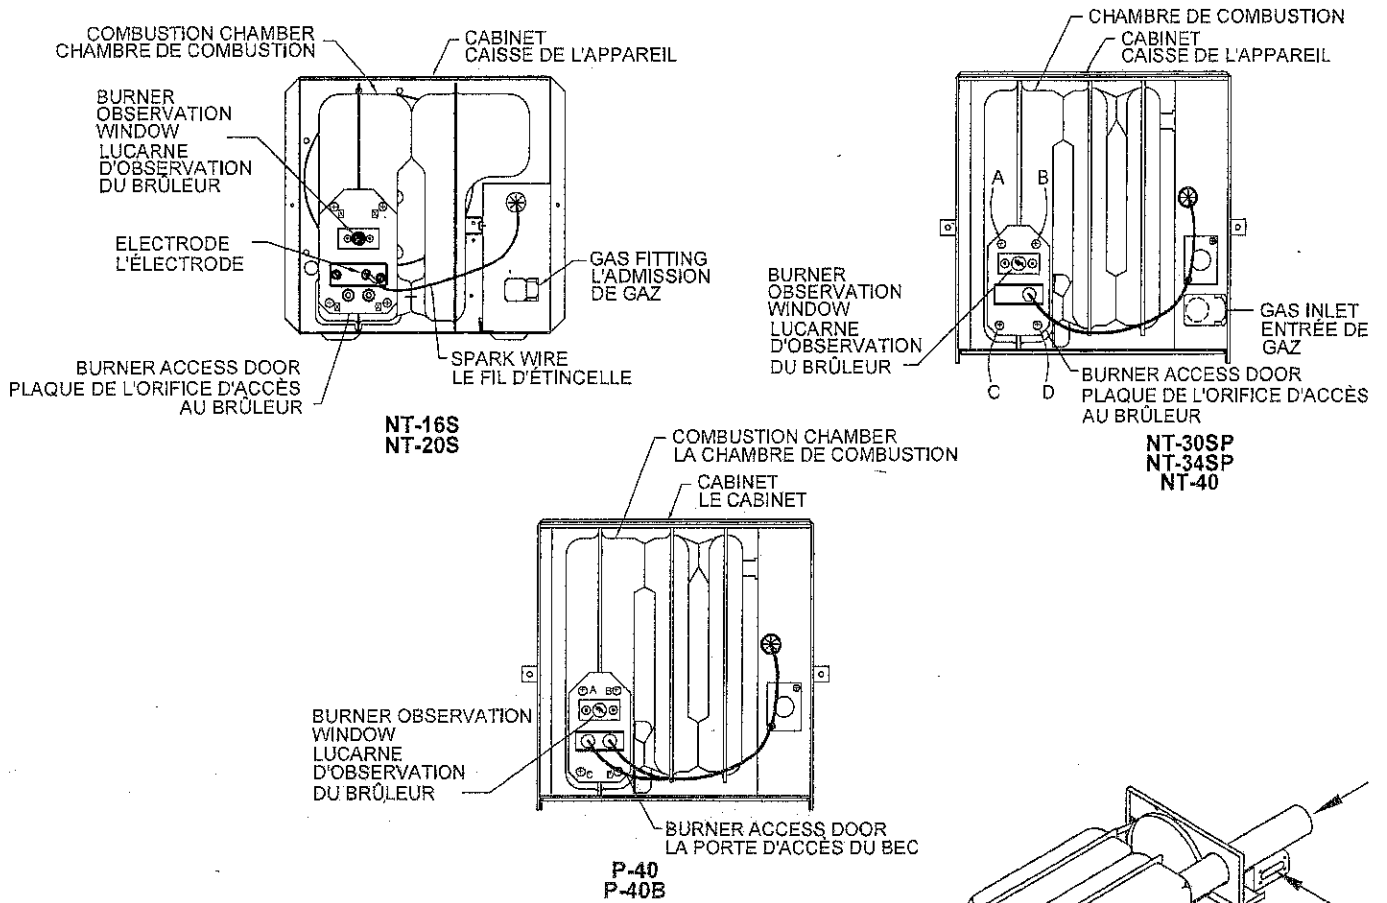

Figure 1
3. Periodically observe the main burner flame to assure it is burning with a hard blue flame with well defined burner ports (See Figure 2). If flame appears yellow or burner has a lazy flame, shut furnace down. It is possible that burner needs cleaning or replaced. To inspect the main burner, remove the four (4) screws (A, B, C and D) securing the burner access door to the combustion chamber (See Figure 1): If excessive rust and corrosion are present on burner surface, the burner must be thoroughly cleaned or replaced. The burner may be cleaned using a steel wire brush and blown clean using high compression air. Contact a qualified service person for assistance.
NOTE: To observe flame, cabinet front must be removed. Operation of burner can then be observed through the viewing window on front of chamber (See Figure 1).